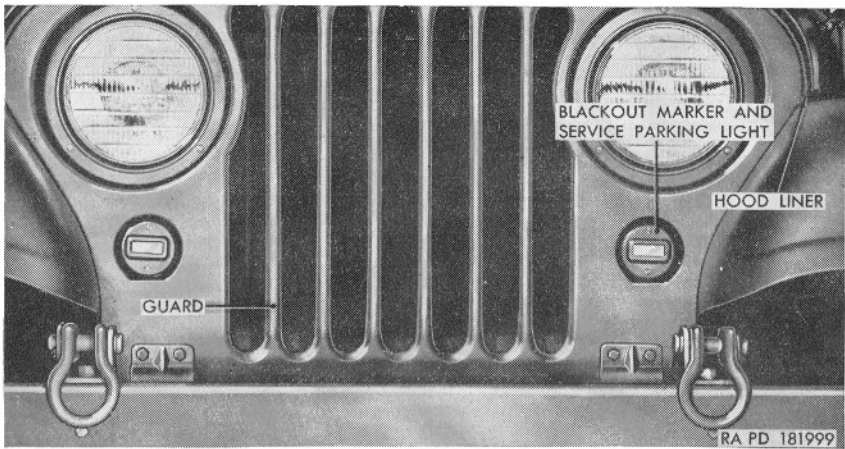

Figure 177.1. (Added) Radiator guard with hood liner M170.
c. (Added) *Radiator Guard With Hood Liner M170* (fig. 177.1). The radiator guard is of stamped and welded construction. It is provided with recess-type housings for mounting the service headlights and signal blackout marker and service parking lights (fig. 177.1). The single bolt, washers, and nut (fig. 16.3) secure the radiator guard to the frame. On each side, at the top of the radiator guard, are tie rods (fig. 16.2) connecting the radiator guard to the cowl. Two bolts (fig. 16.1) on each side of the radiator secure the deflector of the guard assembly to the radiator. The hood liner (fig. 16.2) is attached to the upper edge of the guard with split rivets.